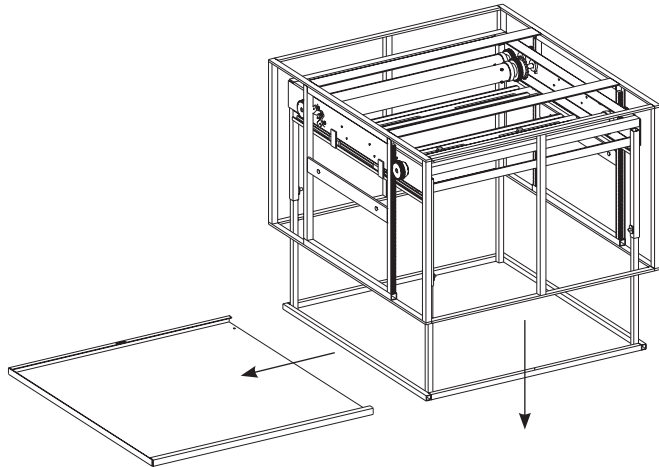

Figure 1
3. Adjust bottom frame down and remove ceiling tile plate. See Figure 1.